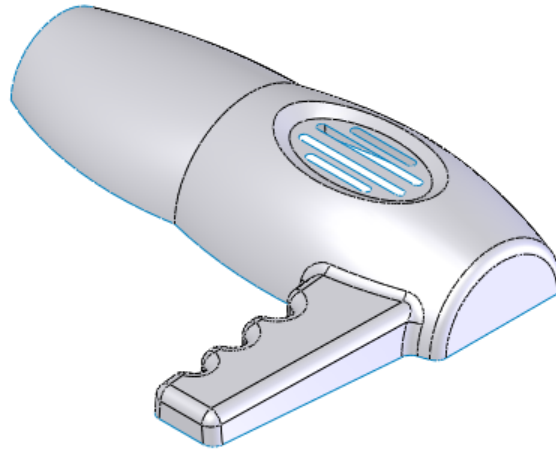

Figure 1-160 Surface model after adding fillets
4. Add required fillets to the surface model. The model after adding fillets is displayed in Figure 1-160.